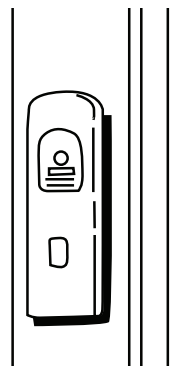

Fig. 3
2. Attach alarm unit to the hook and loop strip on the non-hinged side of the door. (see Fig. 3).